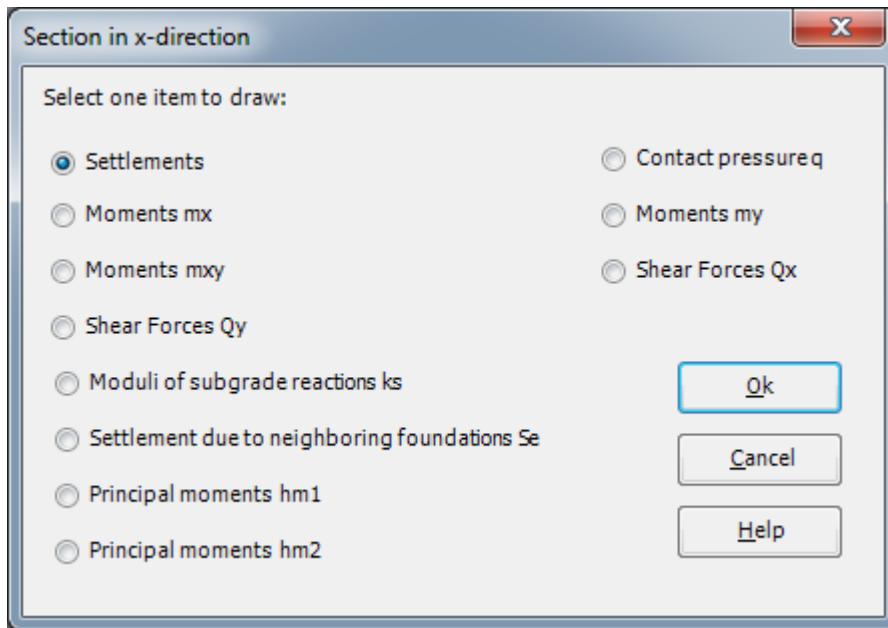

Figure 9.45 "Section in x-direction" option box
- Choose "Section in x -direction" command from "Section" Menu in the "Result" Tab. The following option box in Figure 9.45 appears